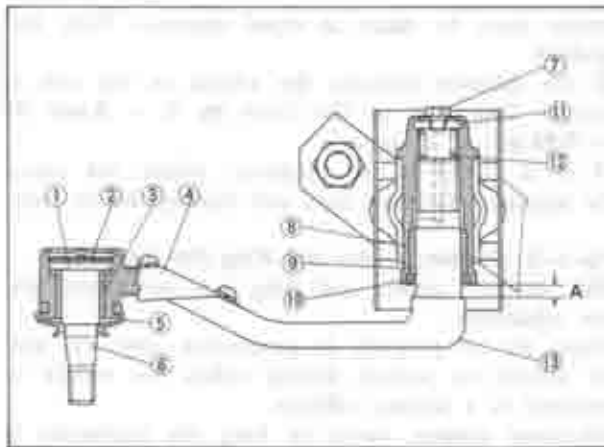

Fig. 10-17 Idler arm
9. Screw the idler arm into the bracket until the distance "A" between the idler arm edge and the bracket, as shown in Fig. 10-17, becomes 4.0 ~ 6.0 mm (0.157 ~ 0.236 in).